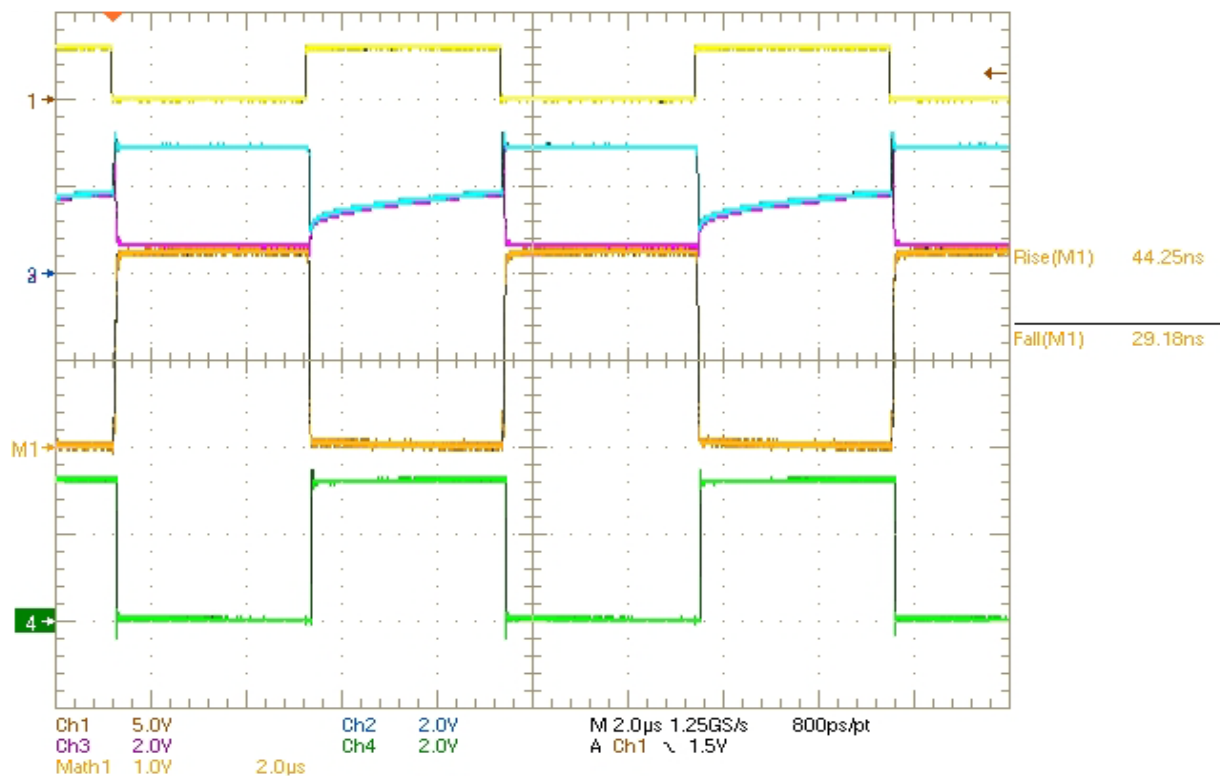
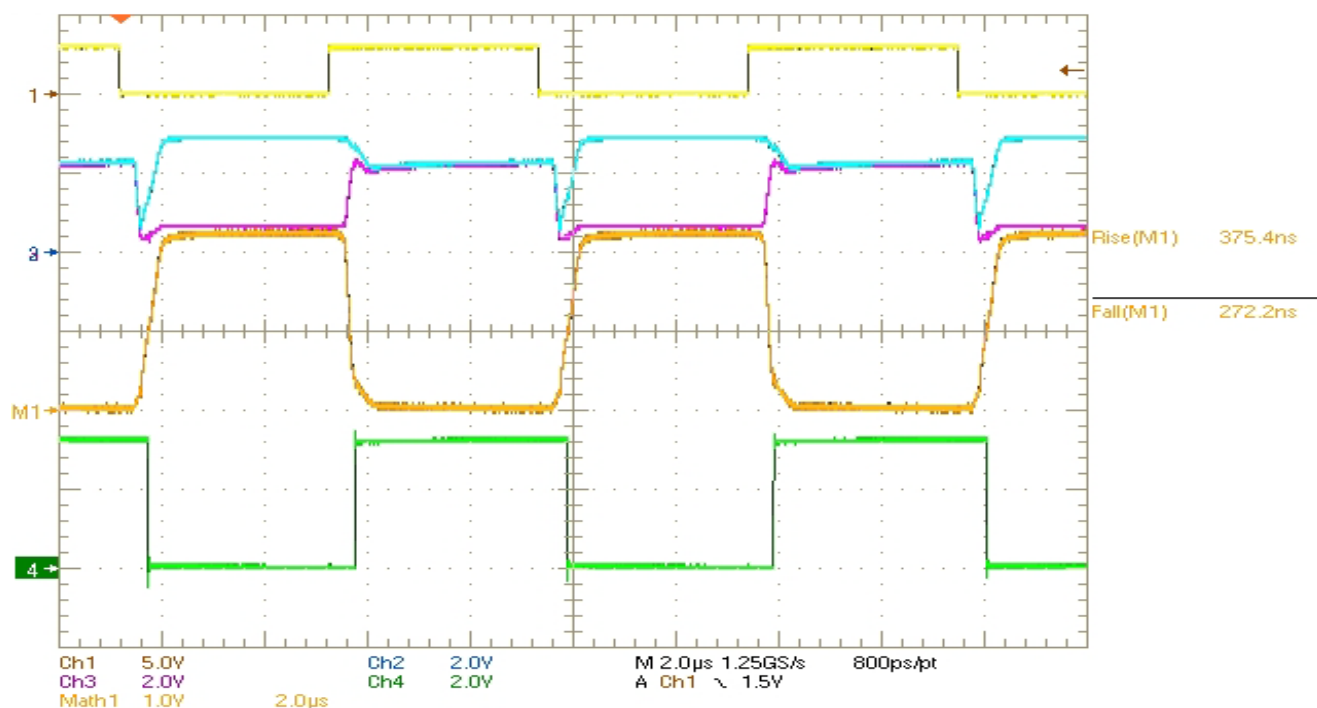
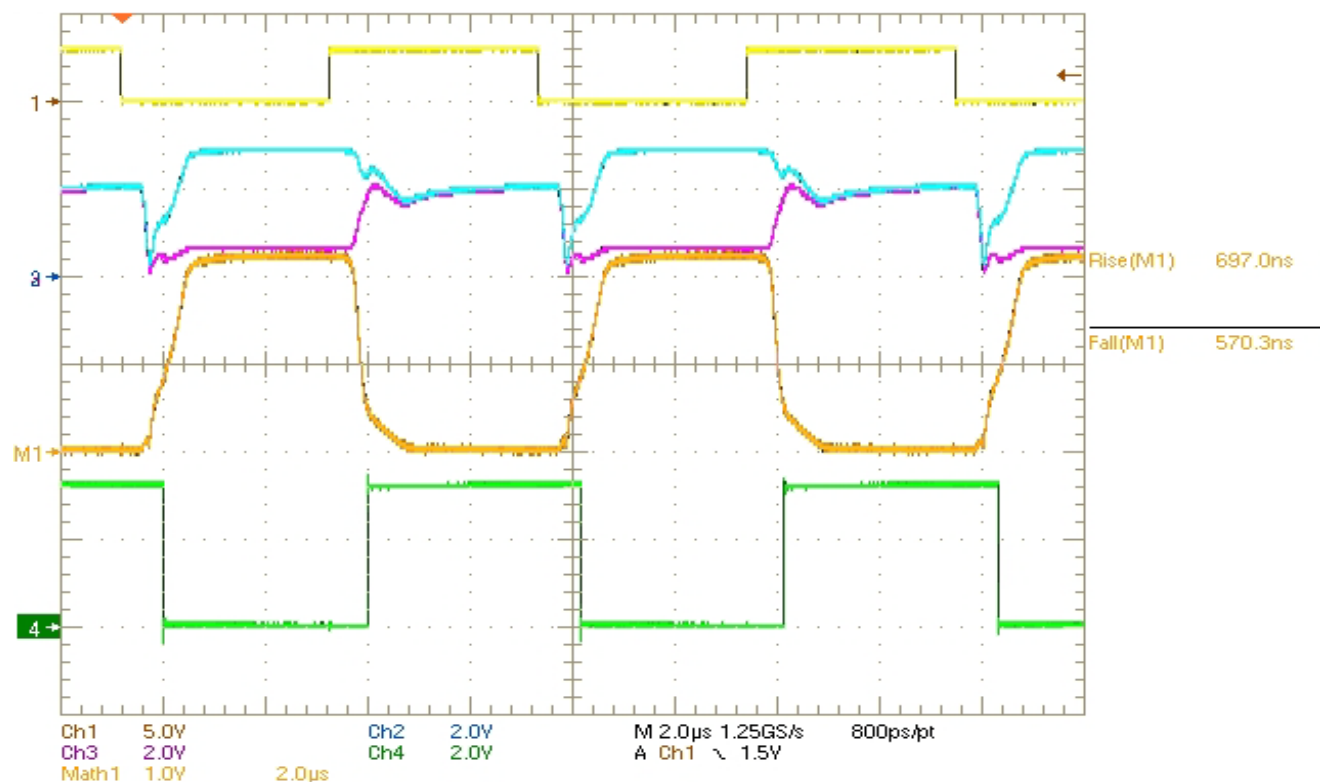

Figure 4.1 Oscilloscope Plot (Fast Speed) Waveforms and Measurements
Figure 4.2 Oscilloscope Plot (Medium Speed) Waveforms and Measurements
Figure 4.3 Oscilloscope Plot (Slow Speed) Waveforms and Measurements
- (5) Use the “Measure” menu on the oscilloscope to set up the following four measurements:
- (6) Ensure that a jumper is installed at J8 (selects fast driver edges by connecting the RS pin to ground) and no jumpers are installed at J5, J6, J7, and J9.
- (7) Enable the function generator. The scope plots should look like the ones shown in Figure 4.1 on page 9.
- (8) In fast speed mode ($RS = 0V$):
- (9) Move the jumper from J8 to J7 (selects medium driver edges by connecting the RS pin to ground through a 10k Ω resistor). Note: No jumpers should be installed at J5, J6, J8, and J9.
- (10) The scope plot should look like the ones in Figure 4.2 on page 9.
- (11) In medium speed mode ($RS = 10k\Omega$):
- (12) Move the jumper from J7 to J6 (selects slow driver edges by connecting the RS pin to ground through a 50k Ω resistor). Note: No jumpers should be installed at J5, J7, J8, and J9.
- (13) The scope plot should look like the ones in Figure 4.3 on page 10.
- (14) In slow speed mode ($RS = 50k\Omega$):